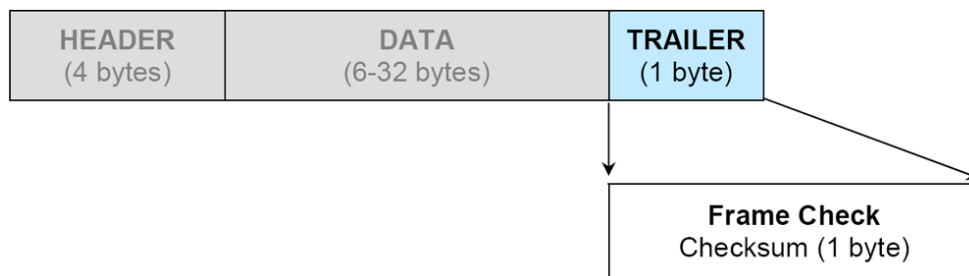

Figure 6: Trailer Sub-Packet
The trailer component contains only one (1) byte called the Frame Check Sequence, shown in Figure 6.